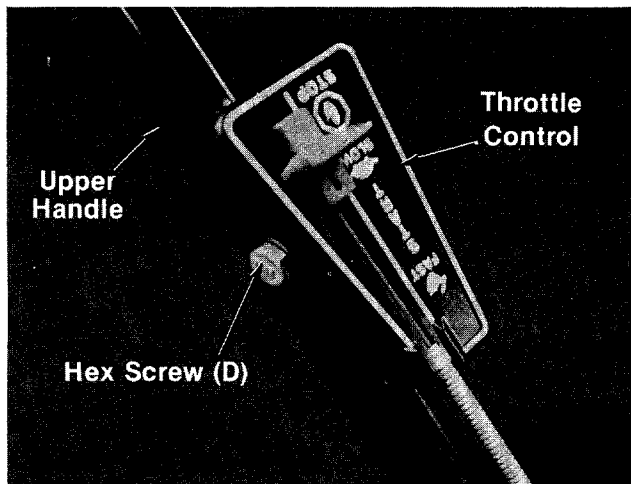

FIGURE 5.
4. Assemble upper handle to lower handle. Secure with two curved carriage bolts (C) and hand knobs (D) as shown in figure 5. The hand knobs may be assembled either to the inside or the outside of the handle.
5. Place the throttle control in position on left side of upper handle. Secure with hex bolt (E) and lock nut (F). See figure 5.